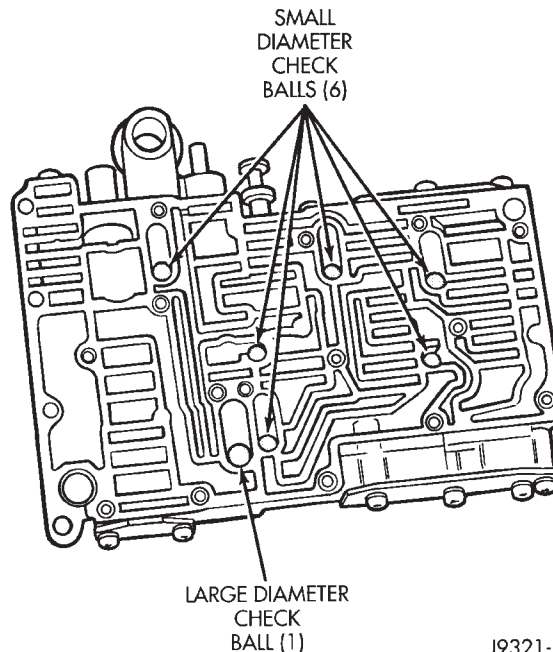

Fig. 71 Check Ball Locations In Upper Housing
- (1) Position upper housing so internal passages and check ball seats are facing upward. Then install check balls in housing (Fig. 71). Seven check balls are used. The single large check ball is approximately 8.7 mm (11/32 in.) diameter. The single small